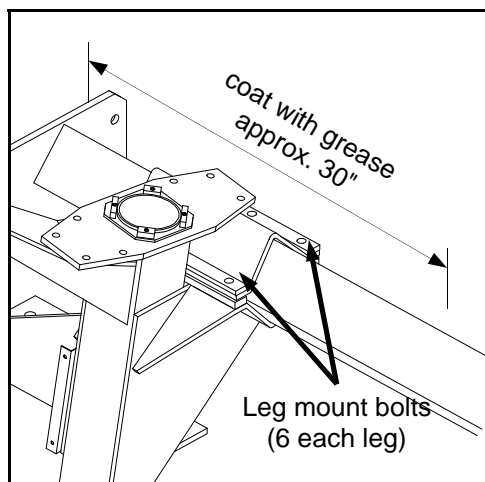

FIG 4.1
2. Loosen the leg mounting bolts on both the front and rear legs on one side of the detasseler only (fig. 4.1).
4. Lubricate the slide path the leg mount will travel along mainframe (fig. 4.1).